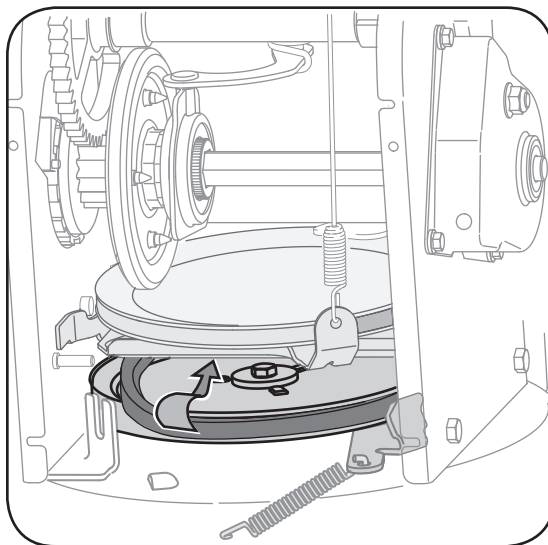

Figure 25
3. Remove old belt and replace with new belt wrapping it around the auger pulley. See Figure 25.